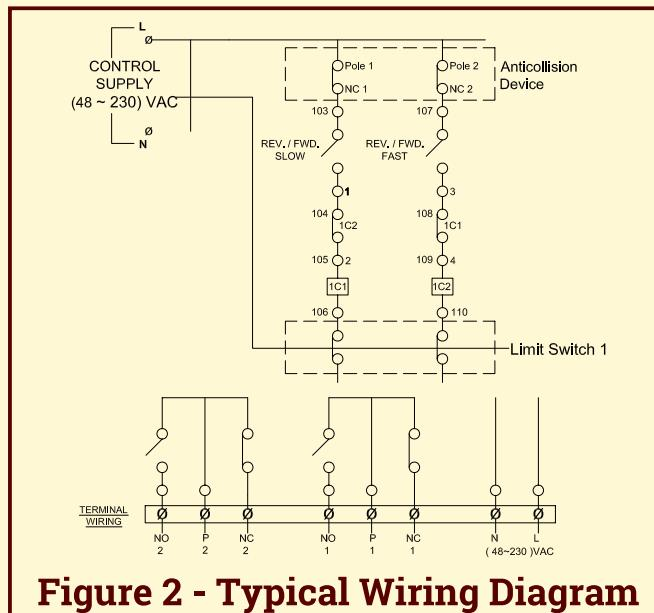

Figure 2 - Typical Wiring Diagram
2. Connect the power supply as per the connection diagram. (Figure 2.)